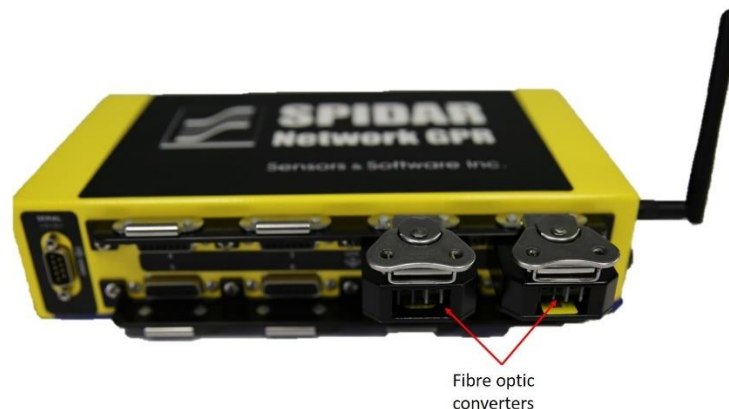

Figure 2-8: Fibre optic converters connected to the NIC-500.
- pulseEKKO antenna ports – there are eight numbered ports available to connect up to eight pulseEKKO PRO transmitters and receivers. If low frequency antennas are employed, fibre-optic converters are required to convert the fibre-optic cable to the 15-pin antenna port input (Figure 2-8). The other end of these cables will run to the respective transmitter or receiver.